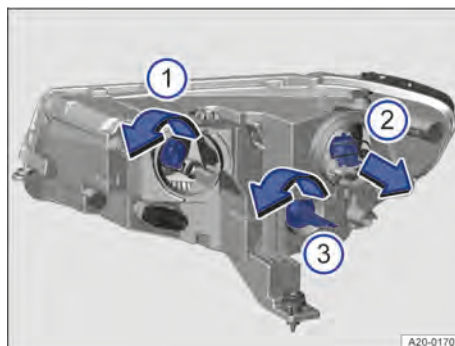

Fig. 173 In the bonnet space: replacing bulbs in the right-hand headlamp.
2. Turn the bulb holder in the direction of the arrow as far as it will go and pull it out to the rear → Fig. 173 ①.
4. Insert the bulb holder into the headlamp and turn it in the opposite direction to the arrow as far as it will go → Fig. 173 ①.
2. Pull out the bulb holder in the direction of the arrow → Fig. 173 ②.
1. Turn the bulb holder in the direction of the arrow as far as it will go and pull it out to the rear → Fig. 173 ③.
3. Insert the bulb holder into the headlamp and turn it in the opposite direction to the arrow as far as it will go → Fig. 173 ③.